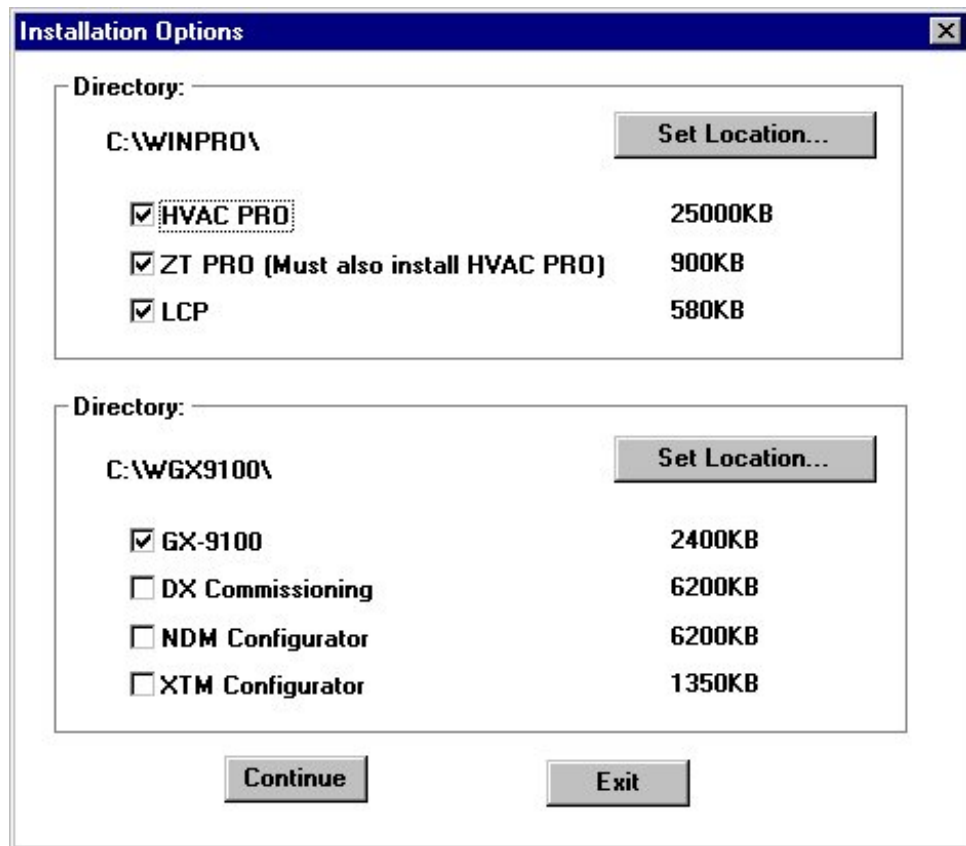

Figure 5: Installation Options Dialog Box
3. Select Configuration Tools. The Installation Options dialog box appears (Figure 5).